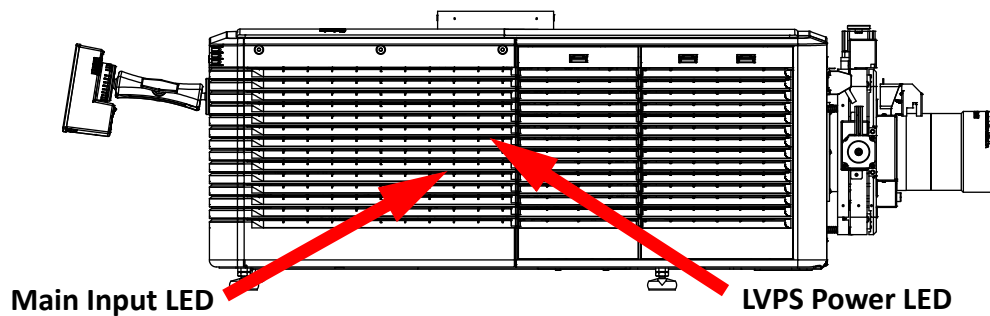

Figure 8-2 View Power Status LEDs
- Verify the LVPS has power by looking through the non-operator's side front access panel. One LED should be present in the lower middle region. (Figure 8-2).